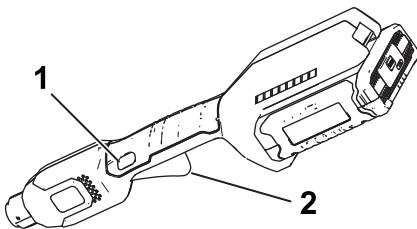

Figure 9
4. To start the trimmer, press the lockout button, then squeeze the variable-speed trigger (Figure 9).